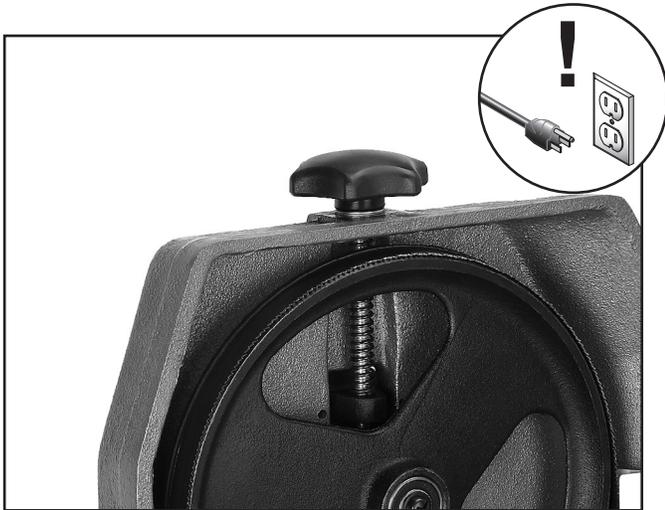

Figure 38. Tension knob and blade.
4. Loosen the tension knob in **Figure 38** and slip the blade off of the wheels. This knob will be very tight and may be hard to loosen.